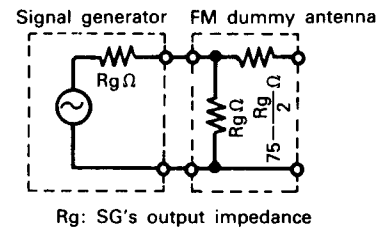

Fig. 14
6. FM dummy antenna shows Fig.14.